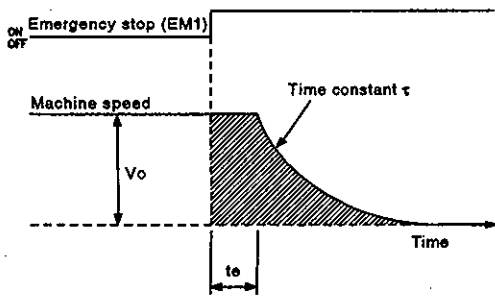
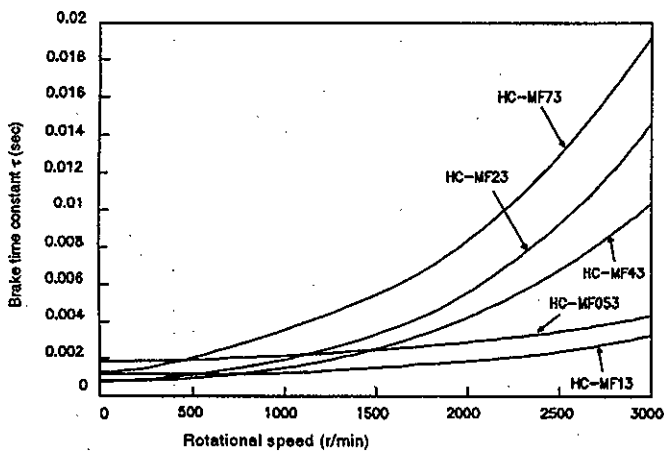

Figure 5 Dynamic Brake Braking Diagram
Figure 6 Dynamic Brake Time Constant (HC-MF)
On occurrence of a power interruption or emergency stop the dynamic brake unit operates and the servo motor executes a rapid stop. When this happens the machine decelerates to a stop as shown by the pattern in Figure 5. The maximum coasting distance (at rapid feed speed) when the dynamic brake operates is the area of the shaded part in Figure 5 and can be roughly calculated using the following expression (2-2). The effects of load torque are greater near the region of the stop, and when the load torque is large, the motor will stop earlier than calculated by this expression. The brake time constant τ in the expression (2-2) changes in accordance with the motor rotation speed at emergency stop, as shown in Figures 6 and 7.
- τ : Brake time constant (Figures 6, 7, Table 2) [sec]